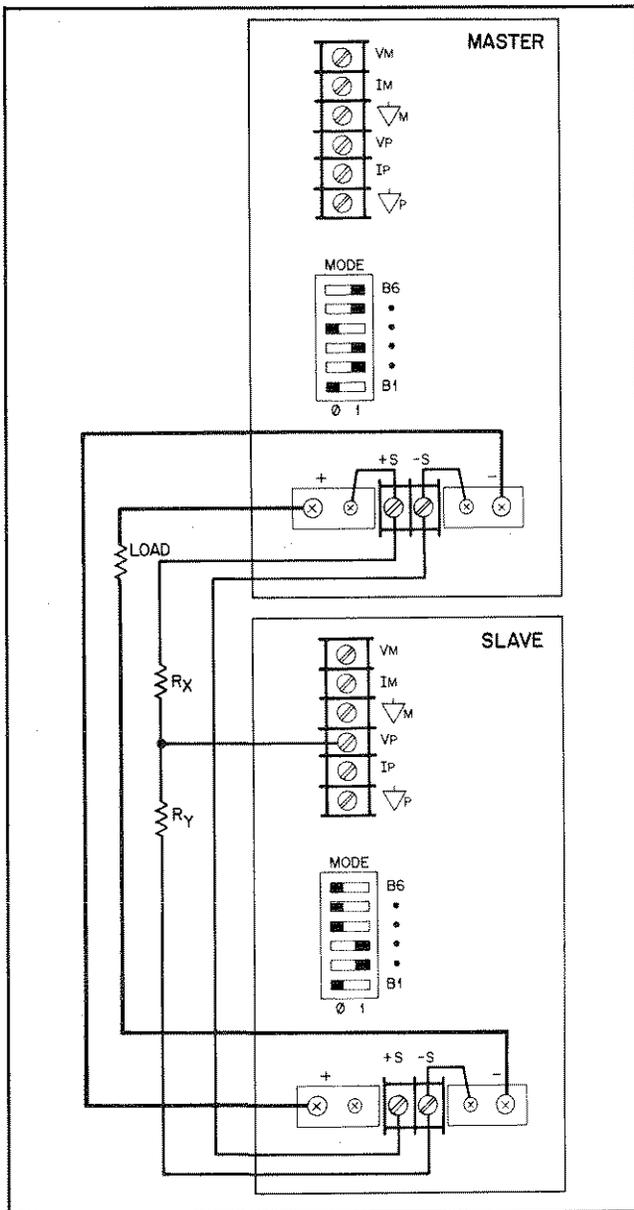

Figure 3-11. Auto-Series Operation
3-69 Figure 3-11 shows the rear-panel MODE switch settings and terminal connections for Auto-Series operation of two units. + OUT of the master unit connects directly to the load. This configuration provides 0 to 30 A dc of output current at an output voltage of up to 40 V dc for two 6023As. (In general, the output voltage is up to the sum of all units' full output.)
**3-71** Connect up to eight units in Auto-Series so long as no output terminal is more than 240 volts from ground. Add each unit to the Auto-Series stack by considering the bottom unit as the master. Duplicate the connections shown in Figure 3-11 and determine values for new resistors  $R_x$  and  $R_y$  by considering the most negative unit as the master unit for the unit to be added.